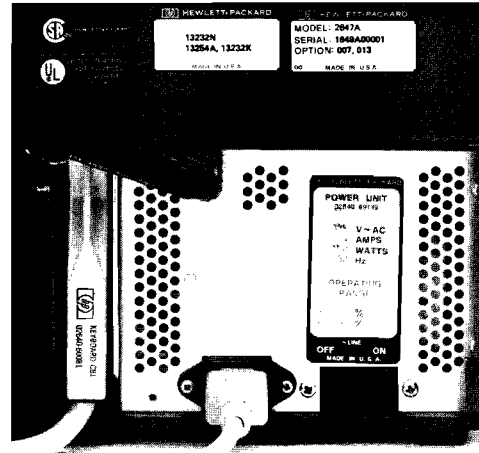

Figure 1-2. HP 2647A Back Panel
3. Set the ~ LINE Switch to OFF. The ~ LINE Switch is located under the rear hinged cover (see figure 1-2).
4. Connect the power cord to the terminal power connector (see figure 1-2).